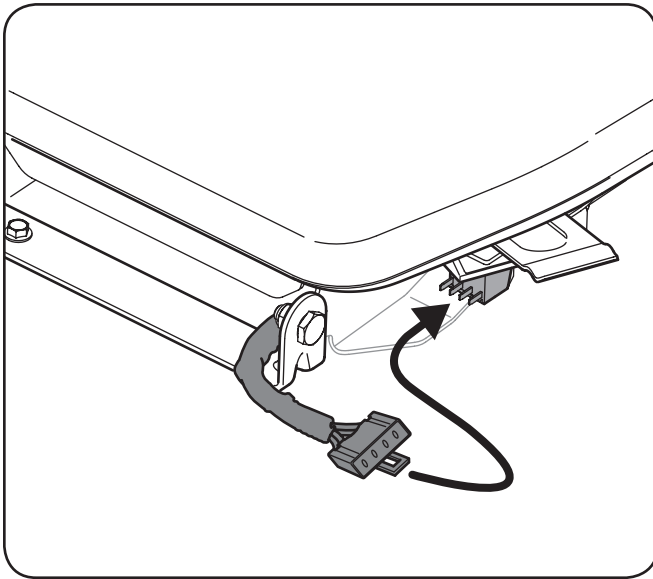

Figure 3-6
5. Plug the safety harness on the seat, into the wiring harness on the unit as shown in Fig. 3-6.
- Note:** Route the unit's wiring harness out through the front of the seat mounting bracket as shown in Fig. 3-6.